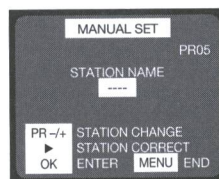

Fig. 7
2. Press the **▶** button and the screen in Fig. 7 will appear.